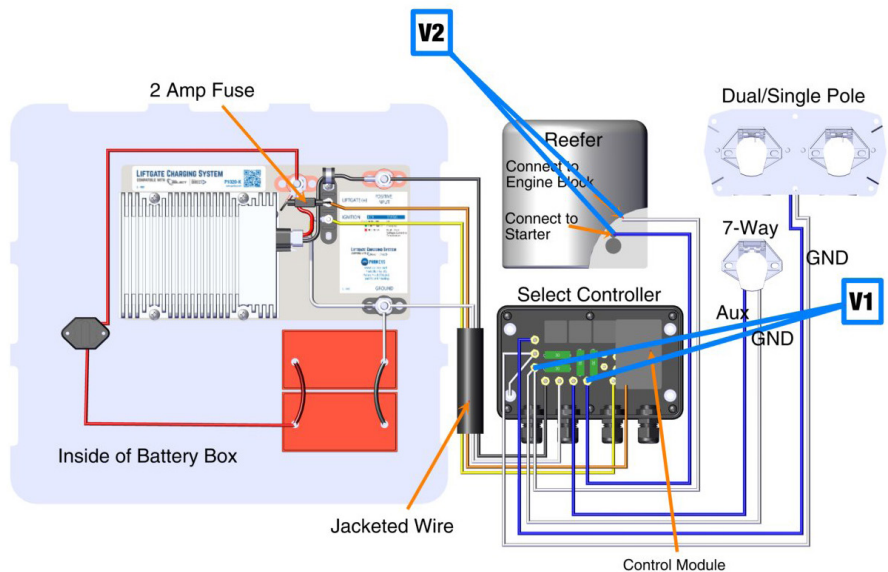

Figure 13
**Step 1:** With the reefer running and the stinger and 7-way cord unplugged, use a voltmeter to measure the voltage between the reefer ground stud and the reefer positive stud inside the Select Controller (see V1 in Figure 13). It should read 13.8 volts or greater. If yes, and the light still is not solid green, call customer service as the Select Controller or Control Module may be defective. If no, proceed to step 2.
**Step 2:** With the reefer running and the stinger and 7-way cord unplugged, use a voltmeter to measure the voltage between the reefer engine block ground stud and the reefer starter positive stud (see V2 in Figure 13). It should read 13.8 volts or greater. If yes, repair or replace the wiring between the reefer unit and the Select Controller. If no, check the reefer alternator and the wiring between the reefer alternator and the reefer starter. Repair or replace.